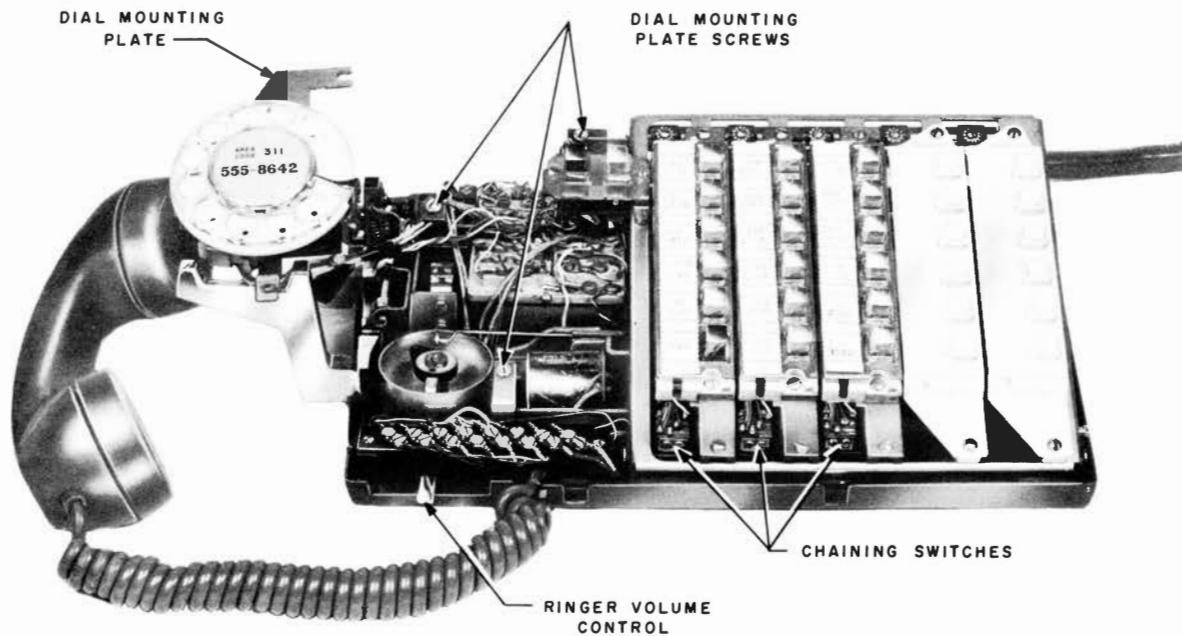

Fig. 7 — 639-Type Telephone Set, Dial Mounting Plate Lifted
5. Loosen screws on each side of dial mounting plate and remove the dial. (See Fig. 7.)